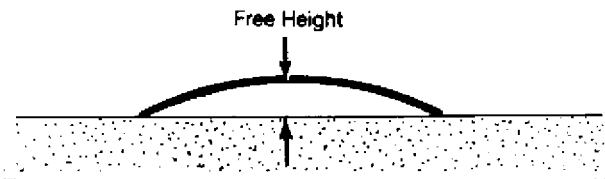

Fig. 16: Measuring Free Height of Apex Seal Spring
4) Standard clearance is .0020-.0035" (.05-.09 mm). Replace apex seal if gap exceeds .0059" (.15 mm). Check seal spring height as shown in Fig. 16. Replace spring if free height is less than .2165" (5.5 mm).